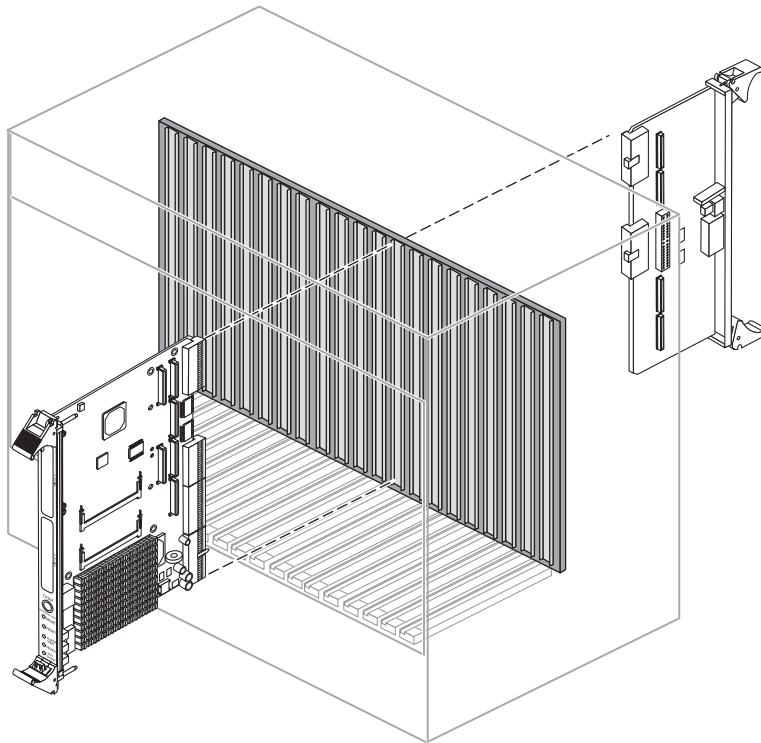

FIGURE 1-7 Installing the Netra CP2300 board and RTM in a cPSB Chassis
The Netra CP2300 transition card can be installed into a cPSB chassis with a backplane made for front and rear board installation (FIGURE 1-7). It must be installed in the slot directly behind the Netra CP2300 board for proper operation. These back-to-back slots have common pins to enable passing of signals.
- 4. Install the Netra CP2300 transition card into the chassis rear connector slot that lines up directly with the Netra CP2300 board (FIGURE 1-7).**
5. **Install the Netra CP2300 board into the front of the chassis (FIGURE 1-7) and push the board towards the backplane to make sure it is seated properly and that the connectors make good contact with the Netra CP2300 transition card.**